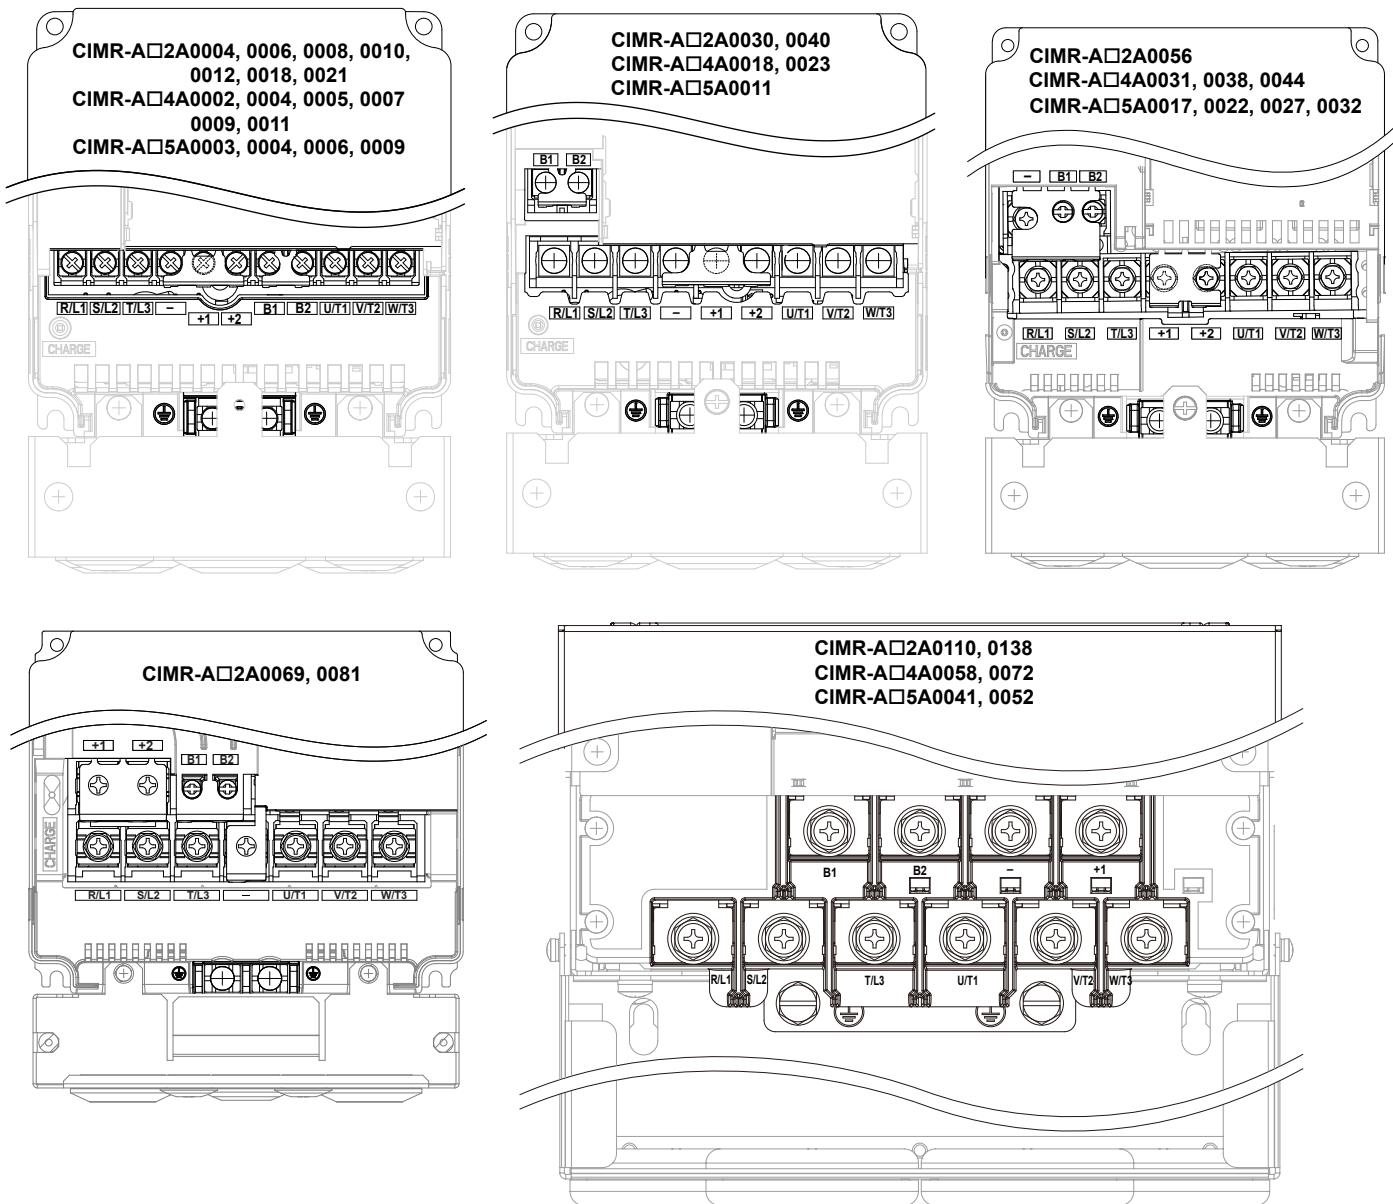
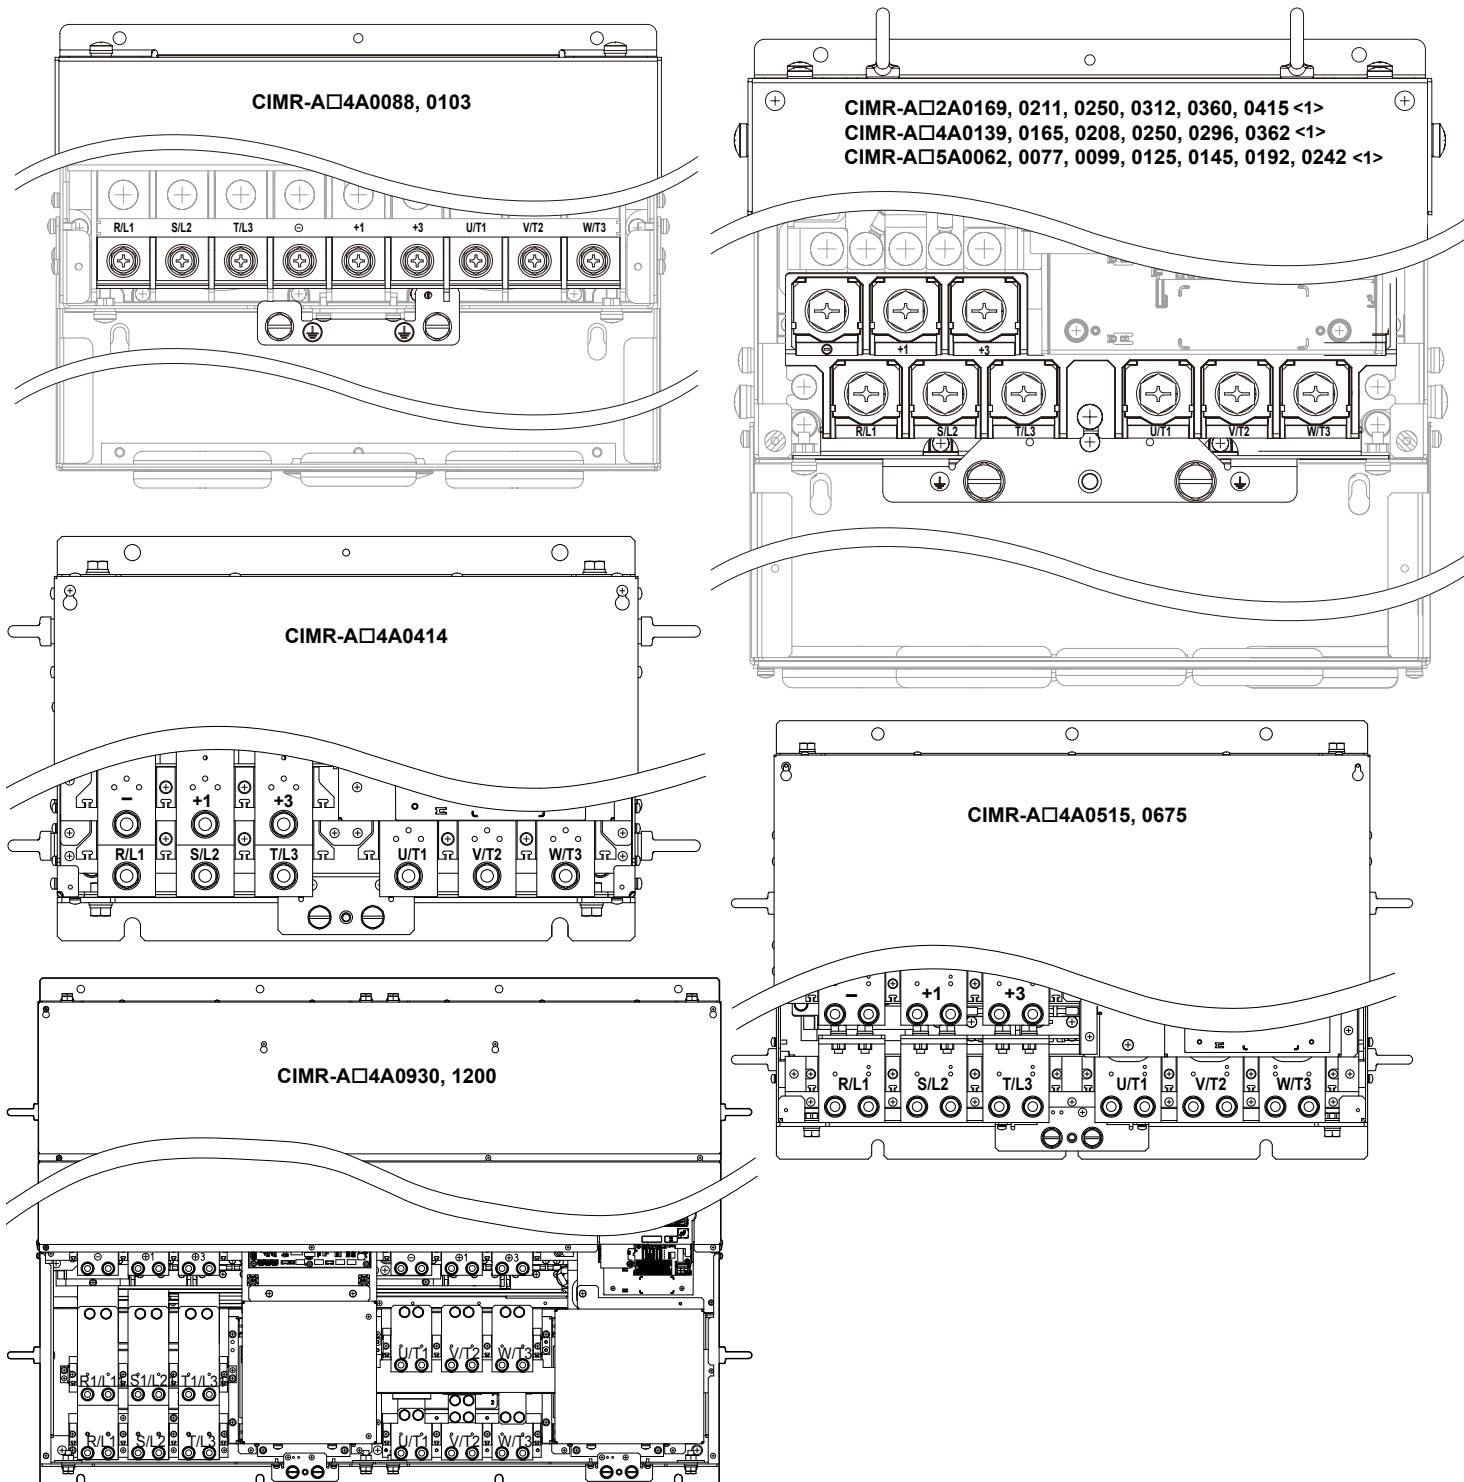

Figure 3.9 Main Circuit Terminal Block Configuration
Figure 3.10 Main Circuit Terminal Block Configuration (continued)
*Figure 3.9* and *Figure 3.10* show the different main circuit terminal arrangements for the drive capacities.